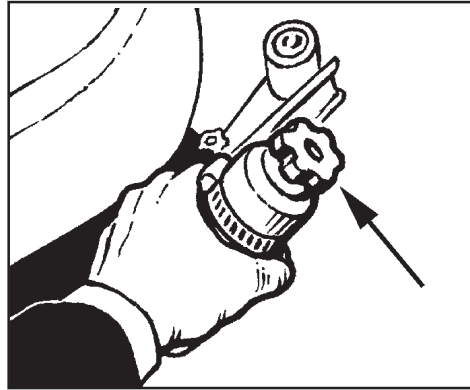

Figure 45
3. Empty the recovery tank using the flexible drain hose by unscrewing the knob and taking off the plug (see figure 45).